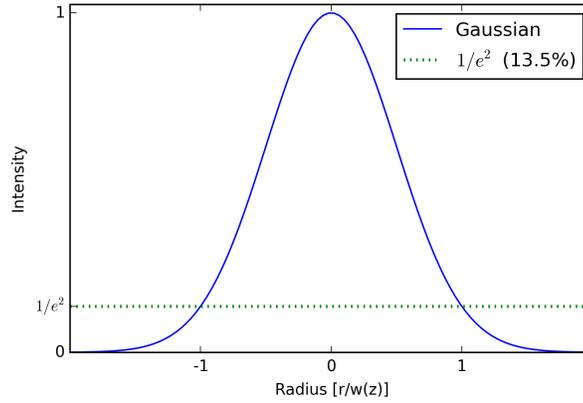

Figure 7.4: Axis profile for a (TEM₀₀).
2. Next, the DataRay software finds the profile of the beam along the solid and dashed crosshairs in the 2D profile. By default, these crosshairs are fixed to the major and minor axes (see Fig. 7.4).